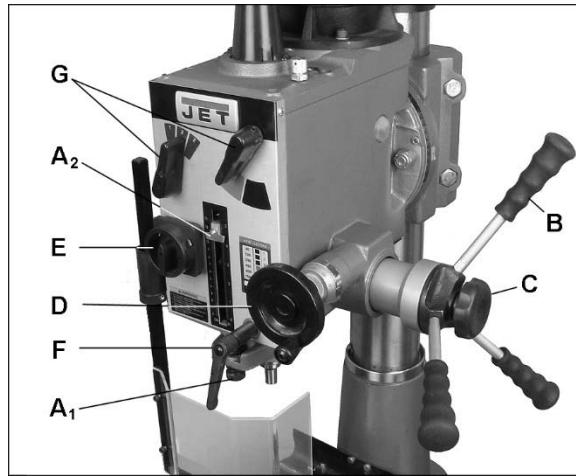
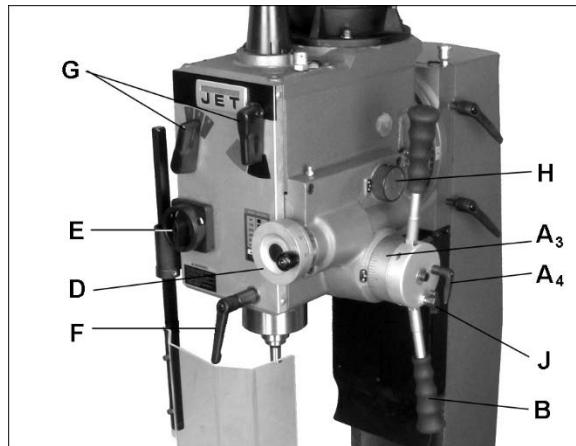

Figure 8-1: operating controls (non-PF models)
Figure 8-2: operating controls (PF models)
Refer to Figure 8-1 (non-powerfeed models) or Figure 8-2 (powerfeed models).
See Figure 8-2.
Non-powerfeed models (Figure 8-1):
Powerfeed models (Figure 8-2):
- Tighten spindle lock (F, Figures 8-1,8-2) at desired height.